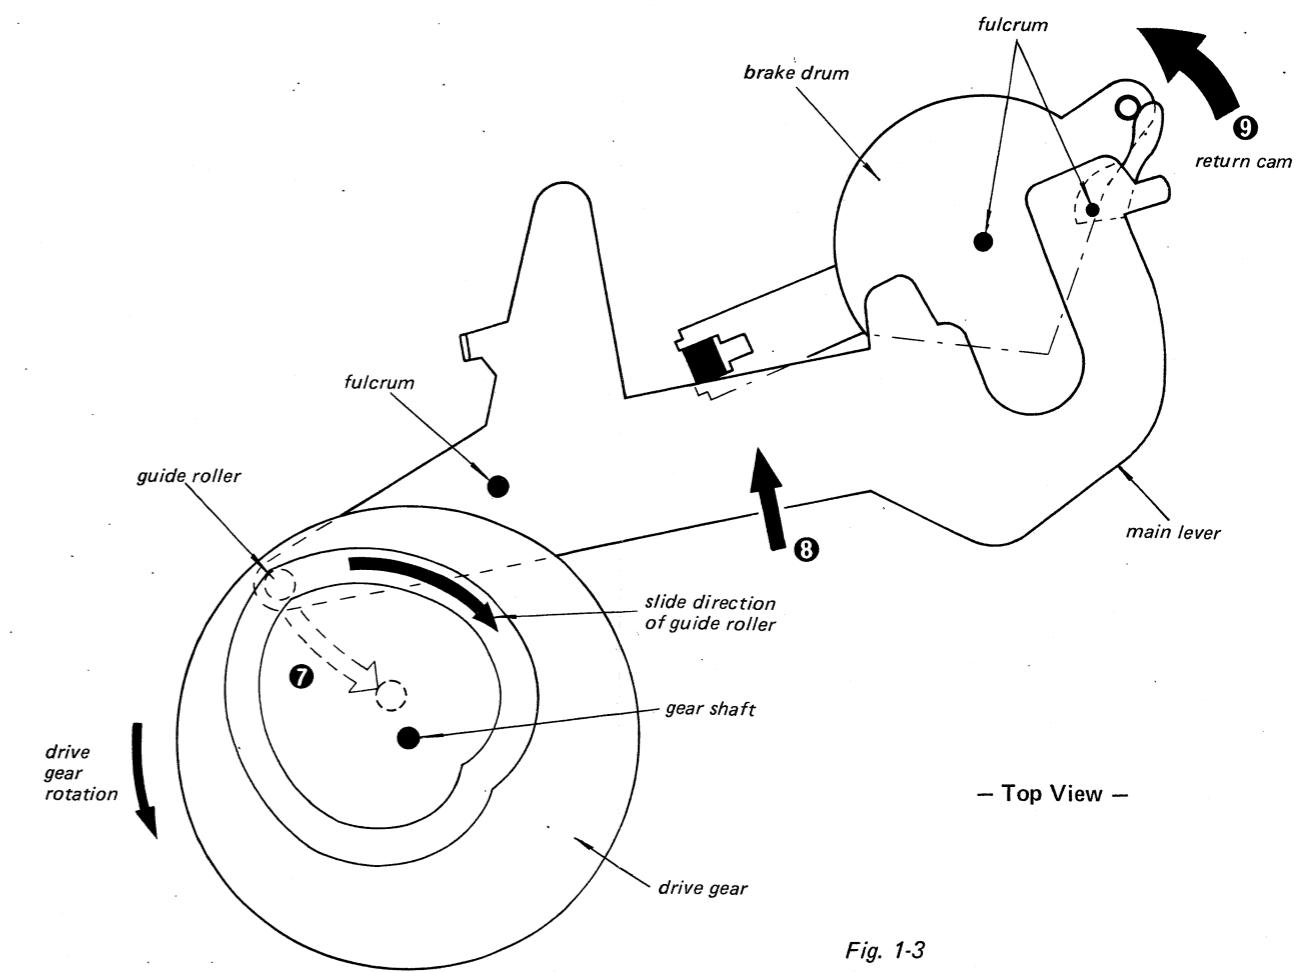

Fig. 1-3
⑦ The guide roller slides in the heart-shaped groove on the drive gear and moves to the inside of drive gear. (Fig. 1-3)
⑧ The main lever moves and pushes up the arm lifter to lift the tonearm. (Fig. 1-3)
⑨ The return cam of the main lever pushes and rotates the brake drum. The tonearm attached to the brake drum moves toward the arm rest. Then the tonearm returns to the arm rest and the return function has been finished. (Fig. 1-3)
⑩ After finishing the return function, the magnet on the brake drum turns ON the reed switch (motor switch S3) and the motor stops rotating. (Refer to "Switching Circuit for Motor Driving" on page 7 and 8.)